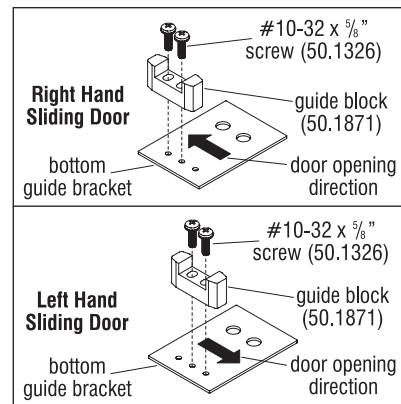

Figure 2 - Door Guide Block Placement Detail
- Install the guide block on the bottom guide bracket in the correct position using two #10-32 x $\frac{5}{8}$ " Torx screws (Figure 2).
- Install the bottom guide bracket onto the door post using two $\frac{1}{4}$ -20 x $1\frac{1}{2}$ " self-tapping screws (Figure 2).